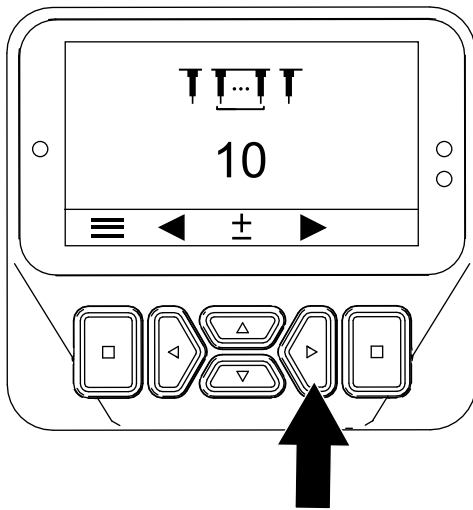

Figure 50
- Press the right button to display the Setting the Tine Quantity screen (Figure 50).